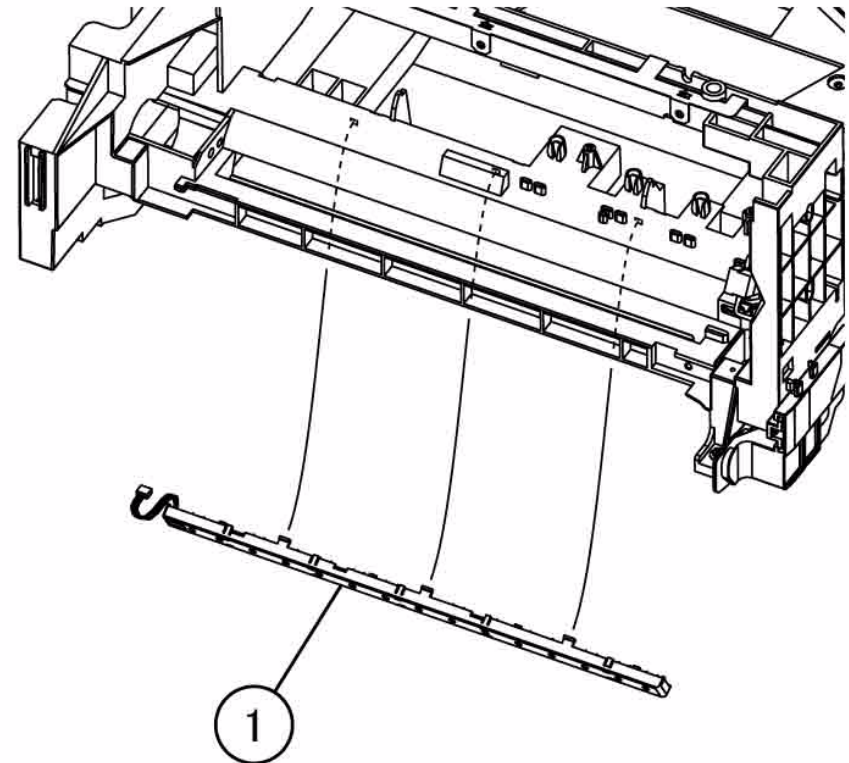

Figure 2 Remove Erase Lamp
7. Remove the Erase Lamp (Figure 2).